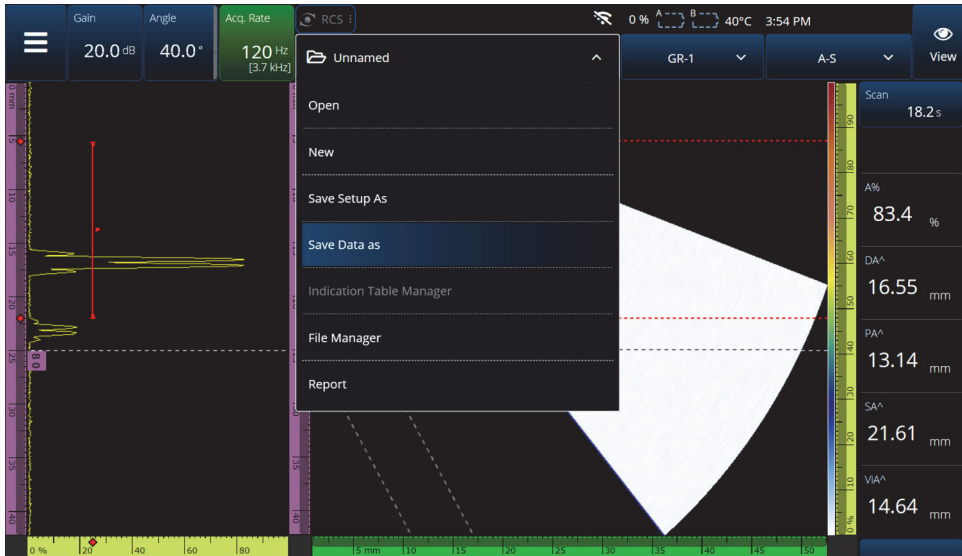

Figure 6-1 File menu
Inspection setups and data are kept and organized using files, and presented in reports. You can use the **File** menu to access multiple file parameters, the **Report** tool, and the **File Manager** (see Figure 6-1 on page 191).
- To save your setup file, select **Save Setup As** on the **File** menu (see Figure 6-1 on page 191).
- To open a file, select **Open** on the **File** menu (see Figure 6-1 on page 191), and then choose the directory in which the file is located. You can open the setup file or data file by selecting the file type. You can also order the files alphabetically or by date using the **Filter** icon, and preview the selected file (see Figure 6-2 on page 192).